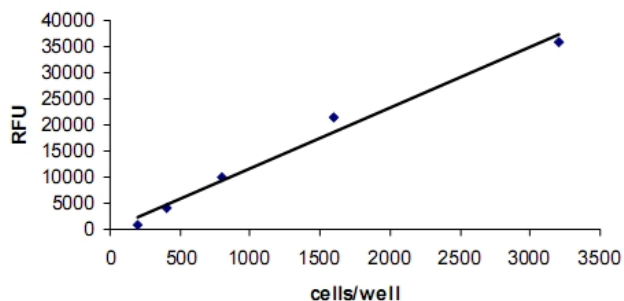

Figure 1. Calcein AM Quantification of Jurkat Cells
Fig. 1 shows that the optimal fluorescence excitation of Calcein is at 490 nm while the maximal fluorescence emission intensity is at 515 nm.
Fig. 1 Fluorescence excitation and emission spectra of Calcein in pH 9 buffer. The fluorescence emission spectrum was obtained using λ_{ex} @490 nm, and the fluorescence excitation spectrum was scanned using λ_{em} @515 nm.
8. Record fluorescence using a 490 nm excitation filter and a 520 nm emission filter. The fluorescence intensity is proportional to the number of viable cells (see Figure 1).
4. Add 50 μ l per well of freshly prepared 2X Calcein AM Working Solution (see Section V, item 2 for preparation).
6. Record fluorescence using 490 nm excitation filter and a 520 nm emission filter. The fluorescence intensity is proportional to the number of viable cells (see Figure 1 below).